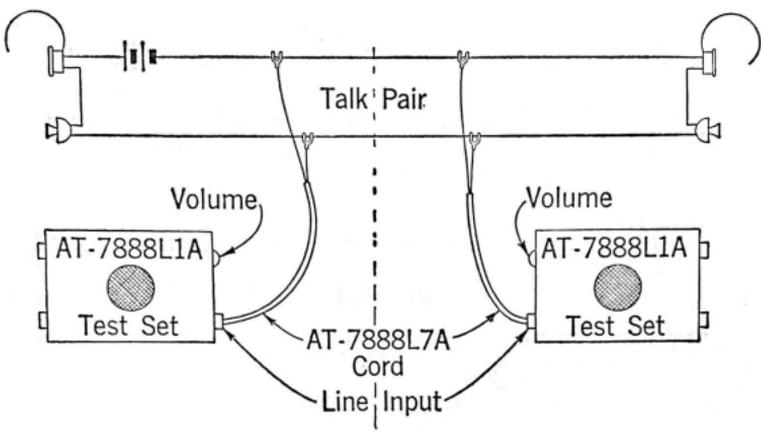

Fig. 9
4.08 **Monitoring on a Talking Circuit:** A battery talking circuit using speaker sets is shown in Fig. 9. Used in this manner the speaker sets provide a means for constant monitoring. Adjust the volume control of each set to the desired level.